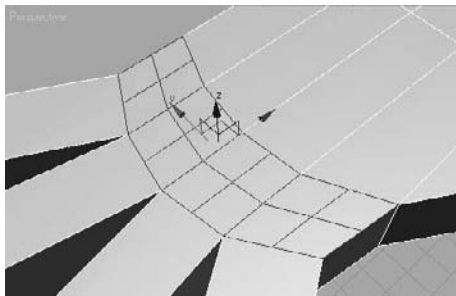

Figure 4.91
2. Select the polygons at the base of the fingers and hold the Ctrl key down, which will allow you to select all four polygons, as shown in Figure 4.90. Select the Tessellate Settings button under the Edit Geometry rollout. You are going to use the Edge option with Tension set to 0. Click **OK**, and your hand should tessellate as in Figure 4.91.